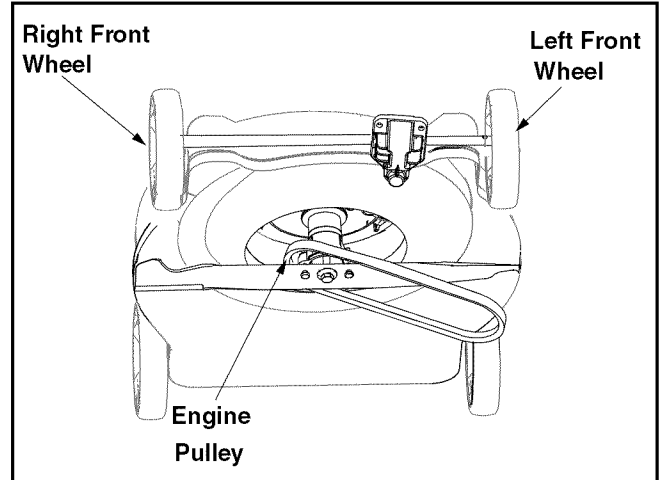

Figure 15
- Slide the belt off the engine pulley and around the blade. See Figure 15.